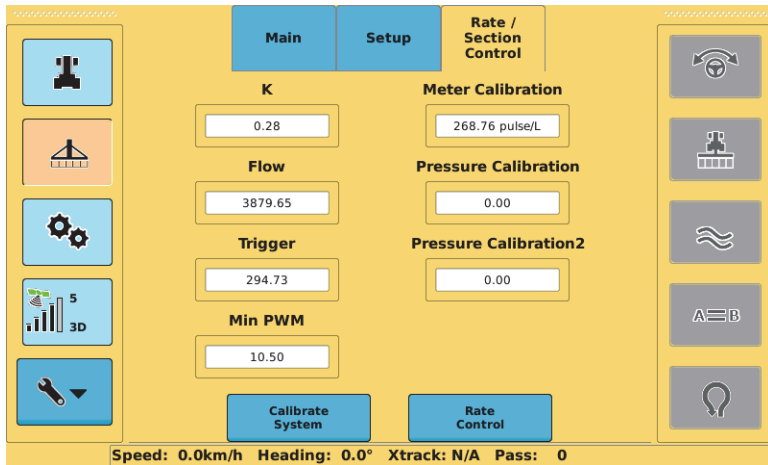

Figure 7-3: Calibration Values screen
You calibrate your system via the Calibration Values screen (Figure 7-3).
3. Press **Calibration Values**. The Calibration Values screen appears (Figure 7-3 on the previous page).